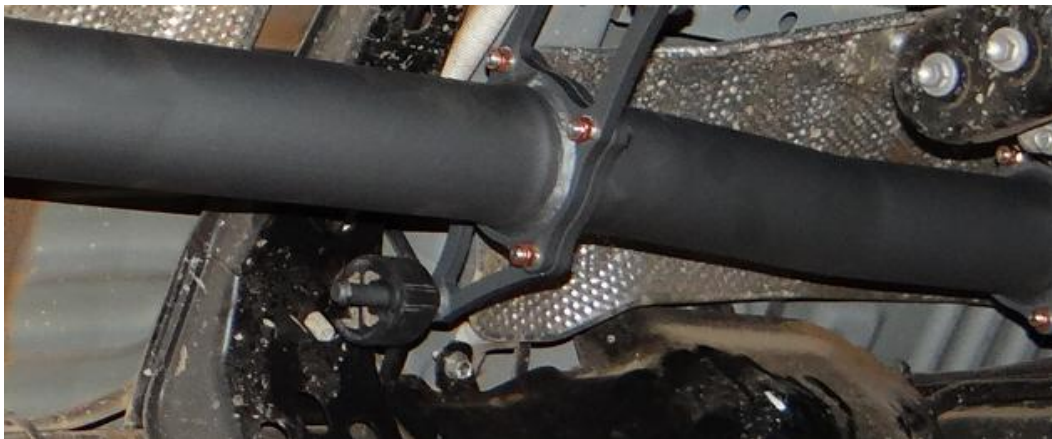

Figure 1.
11. Fit the supplied bolt on bracket to the passenger's side front intermediate pipe using two m8x1.25x45mm bolts, four M8 flat washers and tighten M8x1.25 lock nuts finger tight. Refer Figure 1.